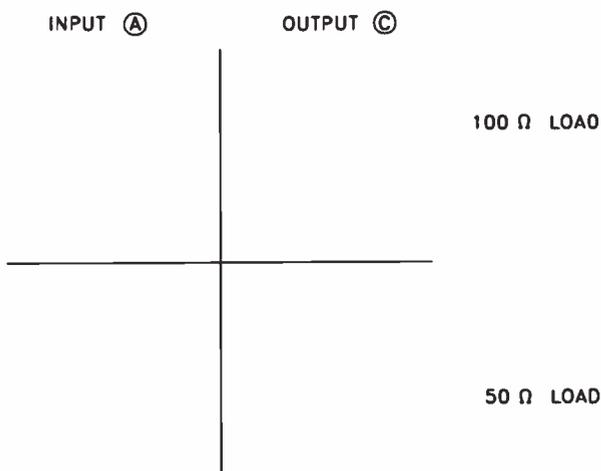

Figure 6-4. For the IC series regulator experiment, enter your measured values in this voltage chart.
**Step 10.** Set your digital multimeter to measure about 50 V and measure the voltage at point A. This is the input to the regulator circuit. Note that you can vary this voltage from less than 2 V to about 20 volts. For now, set it to about 15 V and leave it there. Record your reading in the top-left corner of Figure 6-4.
**Step 11.** Set your digital multimeter to measure about 10 V and measure the voltage at point C. This is the input to the regulator circuit. Since the regulator circuit uses a 7805 IC, you should find nearly a regulated voltage at point C. Record your reading in the top-right corner of Figure 6-4. Use this reading to answer Examination Question 6.
current, since it's the same value as the original load resistor. Again, measure the voltage at point C and record your reading in the bottom-right corner of Figure 6-4. If the regulator is working, the voltage won't change much when you add the extra load.
**Step 13.** Measure the input voltage at point A and record your reading in the bottom-left corner of Figure 6-4. Since the Discovery Lab's adjustable dc outputs are regulated, you shouldn't notice any difference with or without the extra load resistor. This shows that the regulator has excellent load regulation.